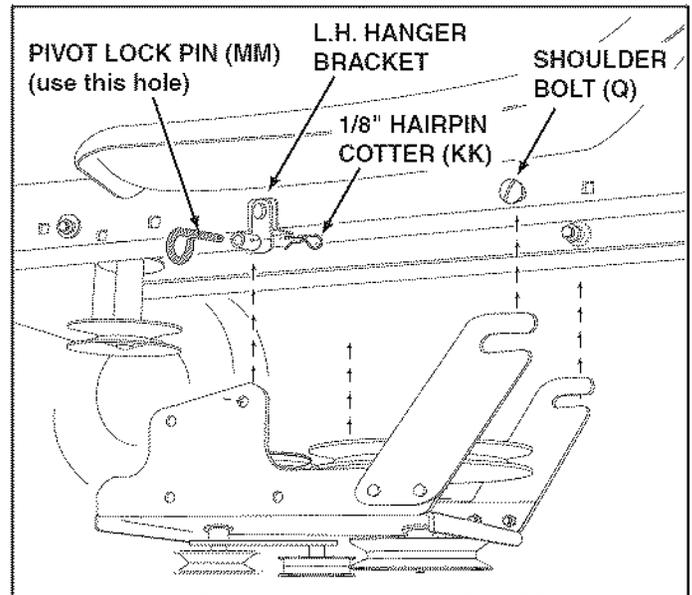

FIGURE 12 VIEWED FROM LEFT SIDE
STEP 12: (SEE FIGURE 12)
- Attach the clutch/idler assembly to the tractor frame. Hook the notched suspension arms onto the two shoulder bolts (Q) assembled to the outside of the tractor frame. Lift the front of the assembly and attach it to the R.H. and L.H. hanger brackets using two pivot lock pins (MM) and 1/8" hairpin cotters (KK).